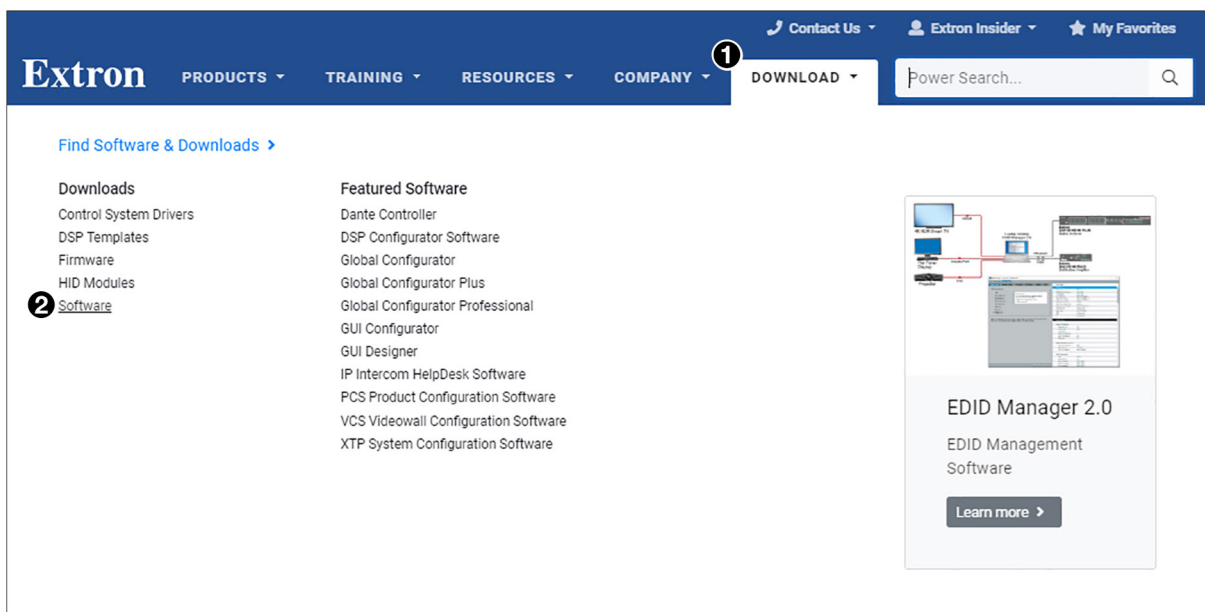

Figure 33. Download Center Page on the Extron Website
1. On the Extron website, select the **Download** tab (see figure 33, **1**, on the previous page).